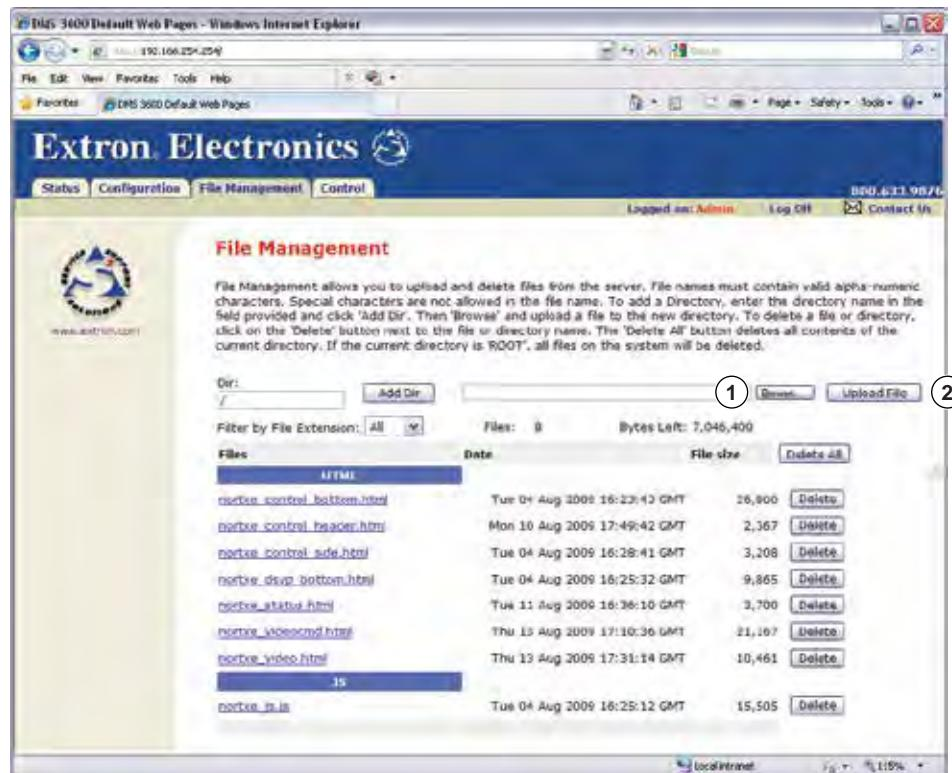

Figure 64. File Management Page
To delete files such as HTML pages from the switcher or to upload your own files to the switcher, click the **File Management** tab. The switcher downloads the File Management HTML page (see figure 64).
NOTE: The files listed in figure 64 are shown for example only and may not be present on your switcher.
1. Click **Browse** (see figure 64 [①]).